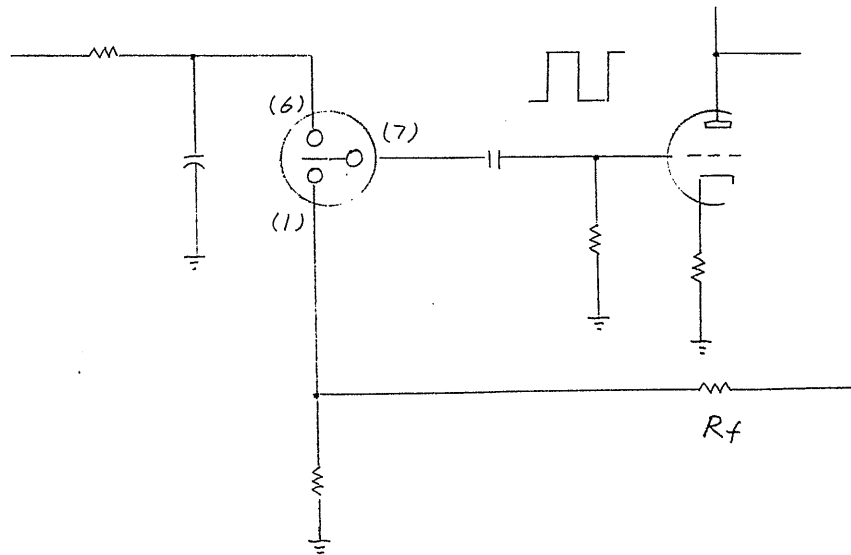

Fig 4-2
As shown in Fig 4-2, the signal from the filter circuit is given to terminal (6), and the signal converted to AC comes into the input of AC amplifier from terminal (7).